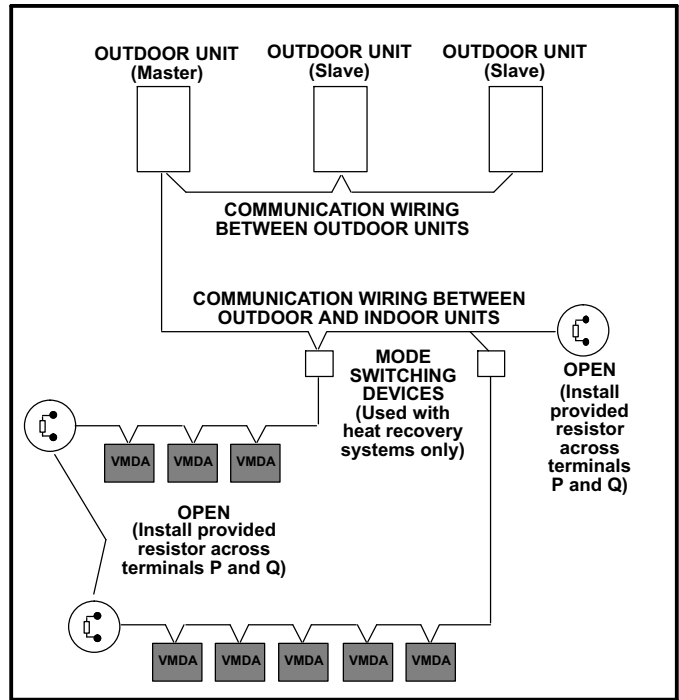

Figure 16. Typical Series Wiring of Indoor Units (with resistors)
- 3 - If the indoor unit is the final unit in a group that is wired in series, install the provided resistor across terminals P and Q. Refer to figure 16.